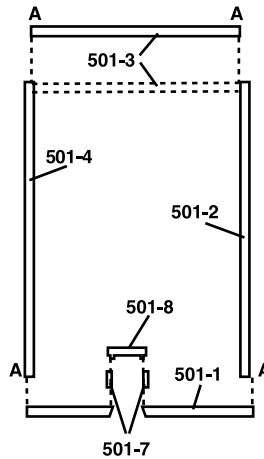

Fig. 1
1. The edges of all parts are angled (draft angle) so they may be removed from the mold. It is necessary to remove this angle from the front edges of the side walls 501-2 and 501-4 and both edges of the rear wall 501-3 allowing flush fit with adjoining walls. Edges to be squared are marked "A" (Fig. 1). To square the edges, thumbtack a piece of 150 grit sandpaper to a board and push and pull the part back and forth evenly on the sandpaper until they are square (Fig. 2).
2. Cut two entry door side panels 501-7 from white styrene stock (.156" x .02"). Make them the same height as the entry door casting 501-8. Glue side panels to entry door as shown in (Fig. 1 and 4). Now glue fronts of side panels to back of entry opening on building front 501-1.